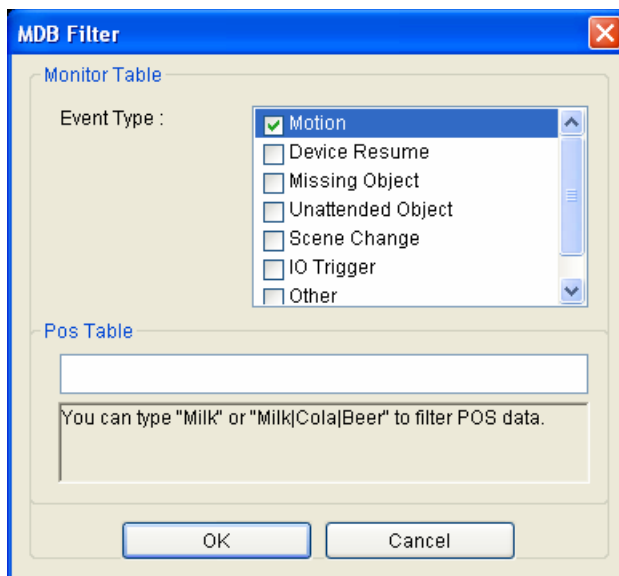

Figure 4-14
1. In the Export with New Privacy Mask Region(s) section (Figure 4-14), select **Un-recoverable** and/or **Recoverable**.
- ⑩ **Un-recoverable:** The block-out area(s) in the recorded files cannot be retrieved.
- ⑩ **Recoverable:** The block-out area(s) is retrievable with password protection.